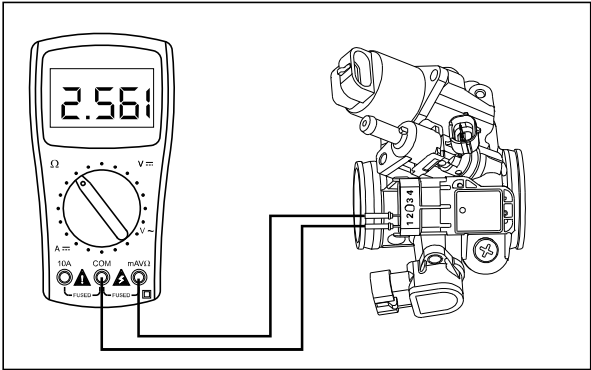

Fig. 5.50
- Disconnect the MAT coupler of wiring harness. Connect the pocket tester's '+ve' lead to the pin no. 1 and '-ve' lead to the pin no. 2 of the MAT sensor coupler and measure the resistance when engine is in cold condition. (Fig. 5.50)